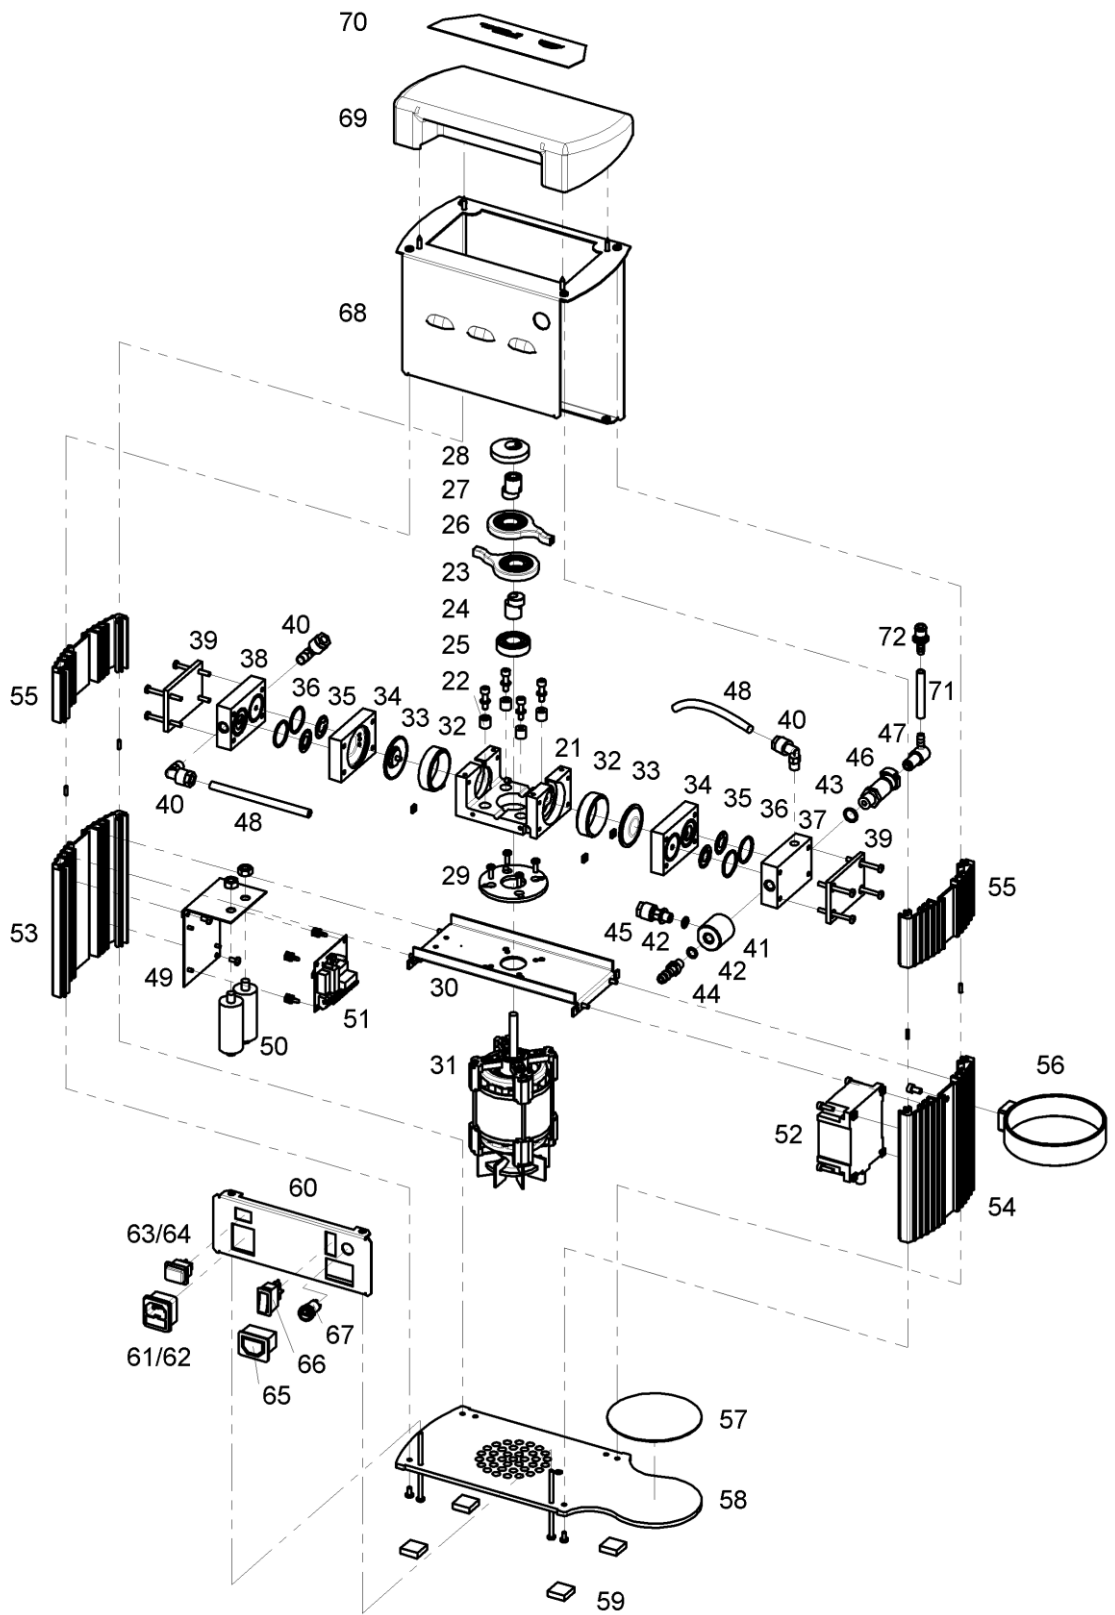

Fig. 10 Explosion view – Basic unit complete
3. Bring the connecting rod (see Fig. 10) and the diaphragm **(6)** into the central position.